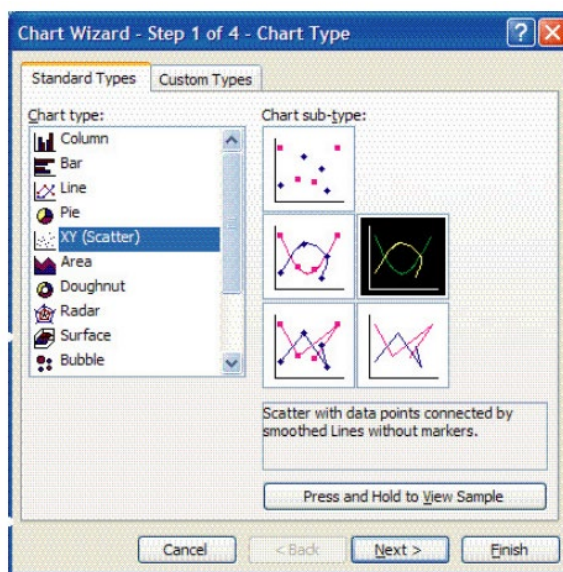

Figure 13. chart wizard – step 1 window
- Click the Chart Wizard button on the Task Bar. The Chart Wizard should open, as shown in Figure 13.
- Choose the X-Y (Scatter) chart type and the Smoothed Lines Without Markers sub-type. Click Finish to display a graph of the spectrum, as shown in Figure 13.